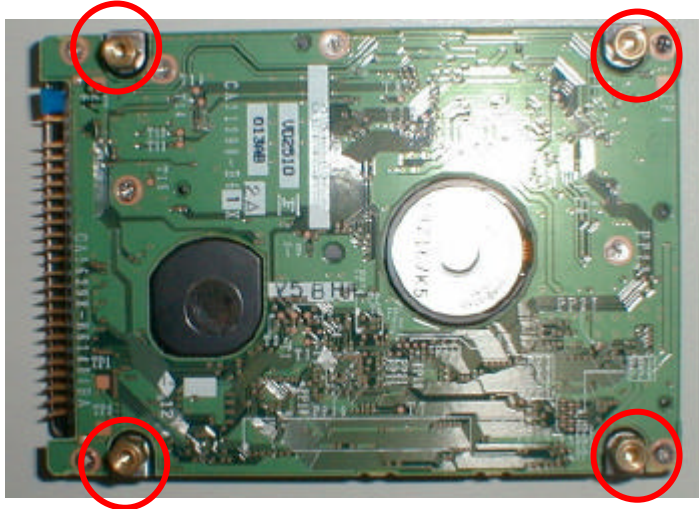

Figure 3: Mounting Location of stand-off on 2.5" HDD
2. Screw on 4 stand-offs to the HDD on the component side where there are 4 mounting holes available. See figure 3 below.